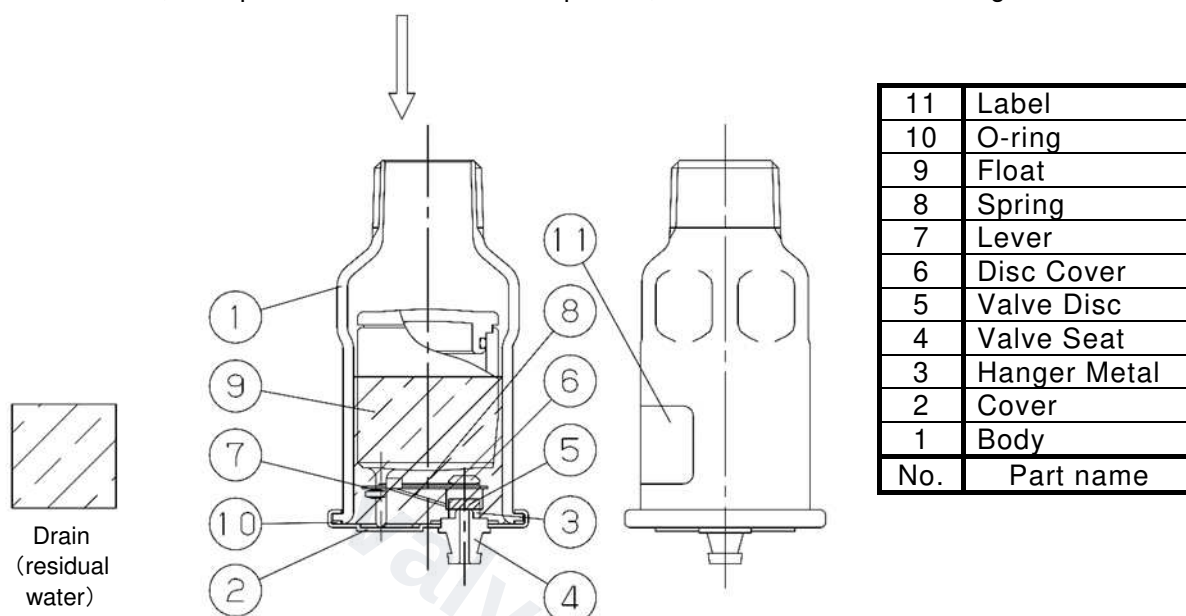

Fig2.1 Operating Diagram
3. After the condensate is discharged, the liquid level drops, buoyancy of the float [9] decreases and valve disc [5] closes. At this point, condensate (residual water) accumulates as shown in Figure 2.1.
- * As condensate (residual water) accumulates as shown in Figure 2.1, freezing may lead to product damage.